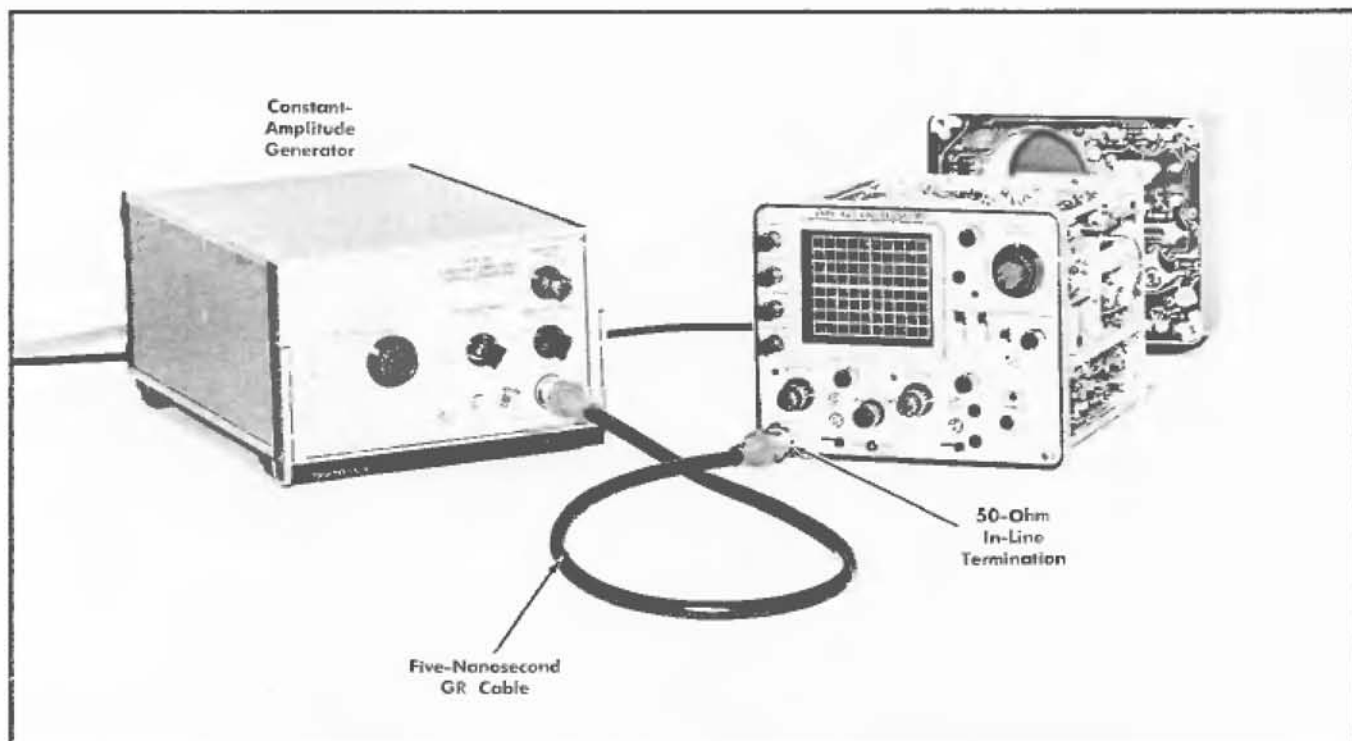

Fig. 6-25. Initial test equipment setup for steps 23—25.
- a. Test equipment setup is shown in Fig. 6-25.